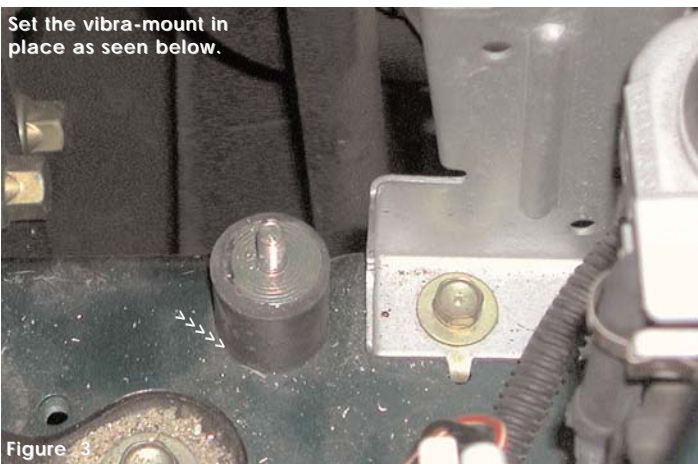

Figure 3
- 4- Screw in the 6mm vibra mount in place as illustrated in figure 3.